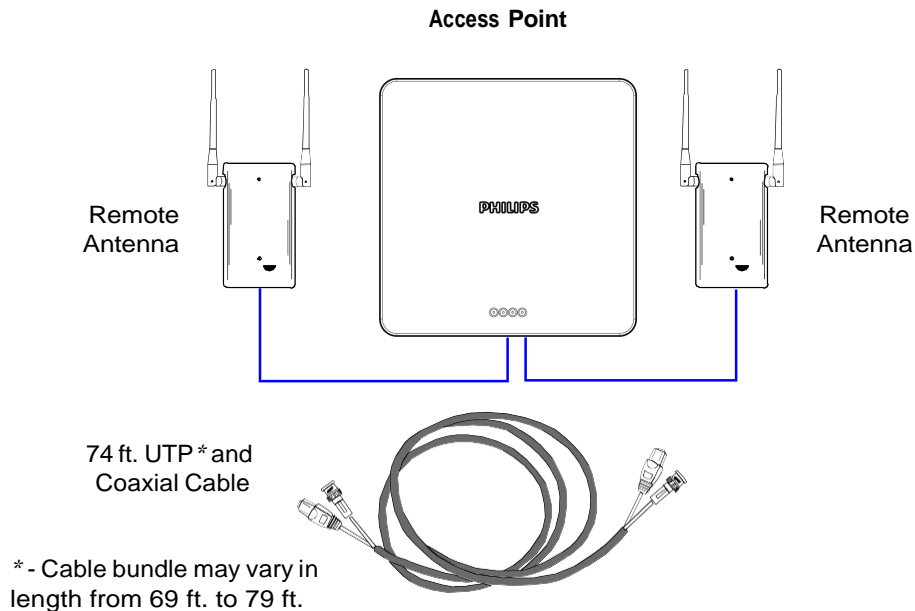

Figure 1-2: Smart-hopping Access Point with Remote Antennas
The Smart-hopping Access Point (AP) and remote antennas (RA), shown in Figure 1-2, provide an air-link to transmit and receive data between Patient-Worn Monitors and the Information Center server via the Smart-hopping infrastructure.